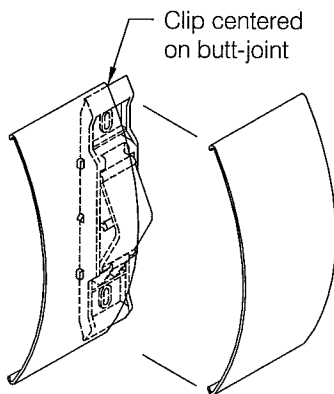

fig 7
- At each WGV-7 cover butt-joint, see **fig 7**
Step 8: Measure between accessories, including optional vertical accents where used, and cut the WGV-7 vinyl cover. Miter cut the WGV-7 for all special angle corners not accommodated by the molded accessories. Install a Red-E-Clip[®] retainer centered at each WGV-7 butt-joint location, see **fig 7**.